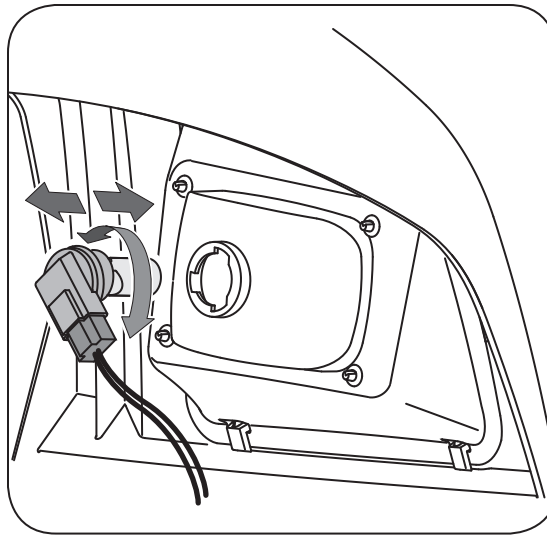

Figure 6
1. Connect positive (+) jumper cable to booster battery positive (+) post (A). See Figure 6.
2. Connect the other end of positive (+) jumper cable to the disabled vehicle battery positive (+) post (B).
3. Connect negative (-) jumper cable to booster battery negative (-) post (C).
4. Connect the other end (D) of negative (-) jumper cable to a metal part of the disabled machine frame away from battery.
2. Turn the bulb/socket assembly approximately a quarter turn counterclockwise to align its tabs with the notches of the reflector, then remove from the reflector. See Figure 6.